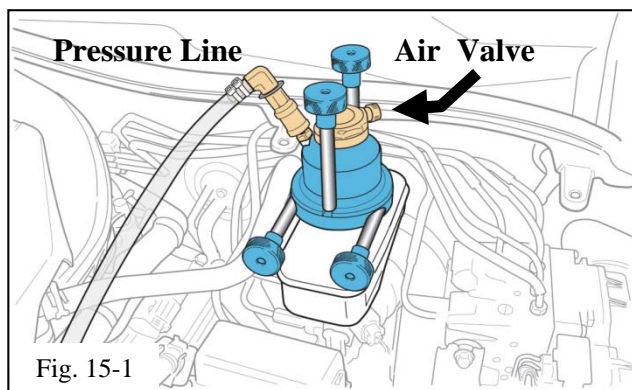

Fig. 15-1
- Disconnect the vacuum line and attach the pressure line as shown in Fig. 15-1.